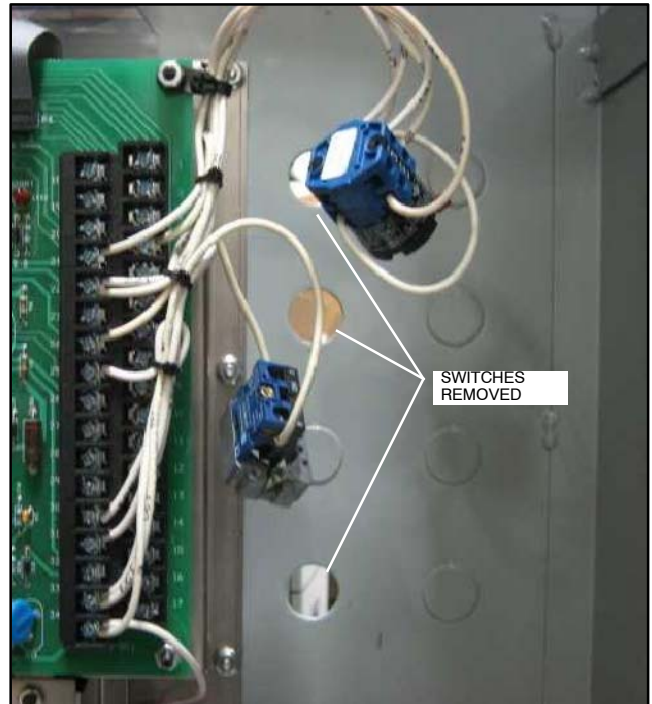

Figure 13 Switches and Pushbutton Removed
11. Remove the AUTO/TEST switch, the BYPASS TIME DELAY pushbutton, the ATS (AUTO/INHIBIT) disconnect switch, and any other optional switches in this area. See Figure 13.